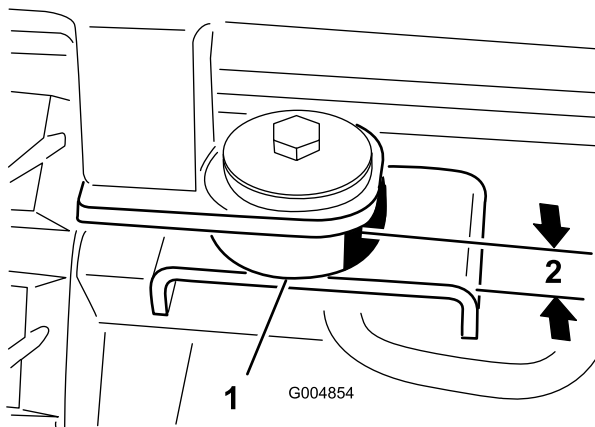

Figure 64
3. Insert a rubber cab mount at the front and rear mounting locations (Figure 64).
5. At each mounting point, secure the cab to the machine with a bolt (1/2 x 3 inches), steel washer (1/2 x 2-1/2 inches), rubber washer (1/2 x 2-1/2 inches) and nut (1/2 inch) (Figure 64). Tighten the bolts until the rubber mounts are compressed to a thickness of 7/8 inch (2.2 cm).